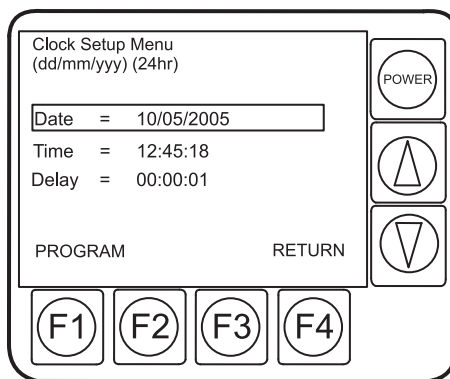

Figure 16 Clock setup screen
1. Press **F3** (Clock) on the Main screen. The Clock Setup screen is displayed (refer to Figure 16 on page 26). The date area is selected by default or by the last change made in the settings. The cursor indicates the current selection.